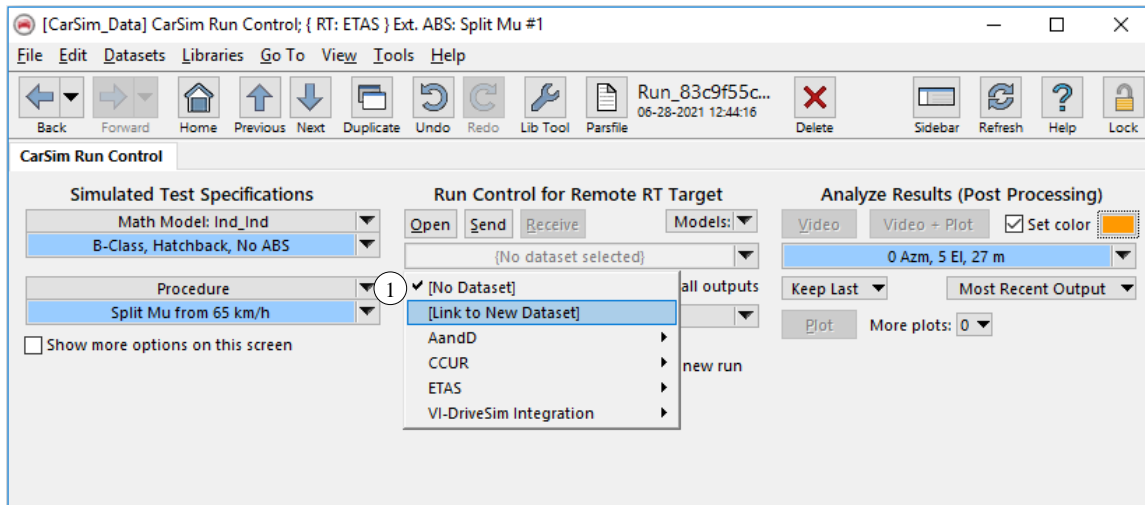

Figure 14. Make a new dataset in the Models: Transfer to Remote RT Target.
3. Use the dataset select control under the **Models** control ① (Figure 14) and choose the option **Link to New Dataset**. Give the new dataset a name and category, such as **LabCar Target** as a category and **ABS Controller** as a title.